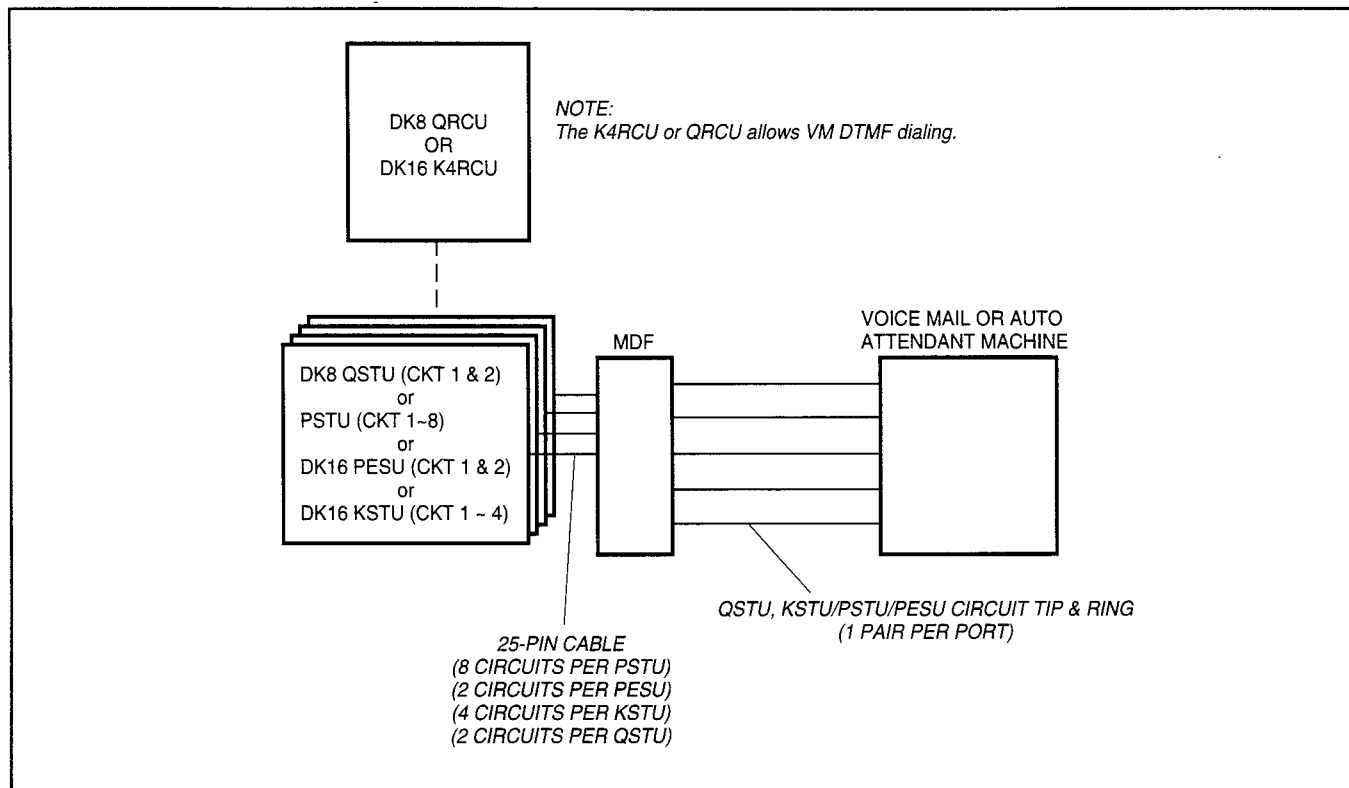

FIGURE 7-22
7.12 A block diagram of voice mail connections is shown in Figure 7-22. See Section **100-816-204** for QSTU and Section **100-816-205** for PSTU, KSTU, and PESU installation instructions.
7.25 Voice Mail System Installation. Install the voice mail messaging system in accordance with the following steps (See Figure 7-22):